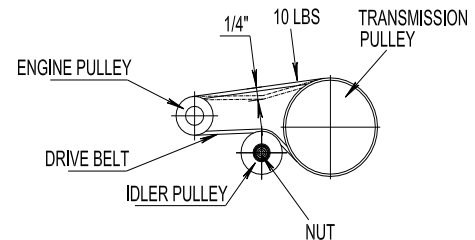

FIG10
- Transmission drive belt is on the underside of the engine frame weldment. Adjust the belt so that the belt moves 1/4" with 10 pounds of pressure; adjust the tension by moving transmission drive idler pulley, then tighten all the nuts.(See FIG 10)
pulley in reverse order. Adjust the belt according to the method of belt adjustment, then tighten the nut. (See FIG 10)